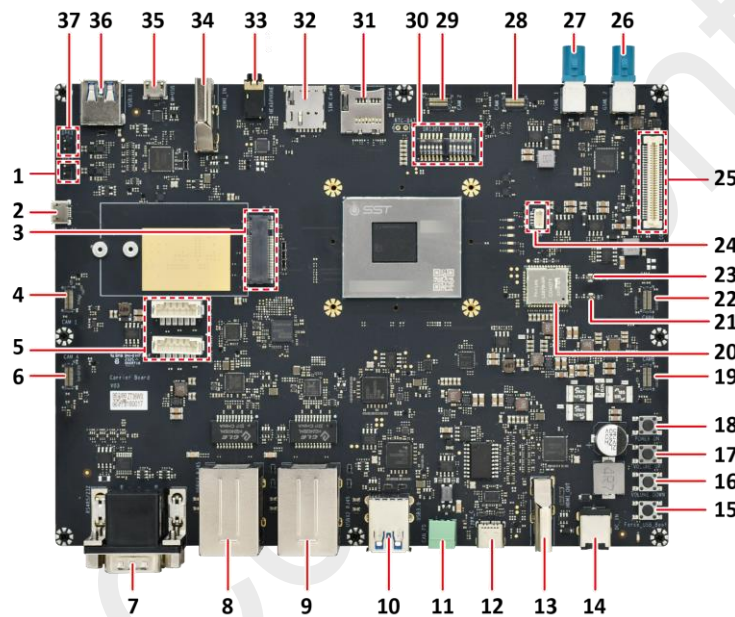

Figure 1-1. Board Overview
Refer to the figure below to connect the device to PC via the **Micro USB connector for UART debug** (No.35 in Figure 1-1).
Step 2. Press the **Power on button** (No.18 in Figure 1-1) to boot up the system and check the log output (example on LA).